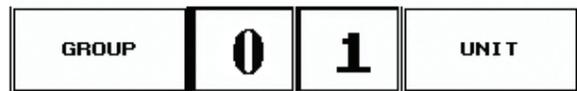

Figure 2.3: Group and Unit address
2. Touch the group and unit buttons, Figure 2.3: Group and Unit Address, to set the Controller's Group to "0" and Unit ID to "1-99" or the desired TCP/IP address.